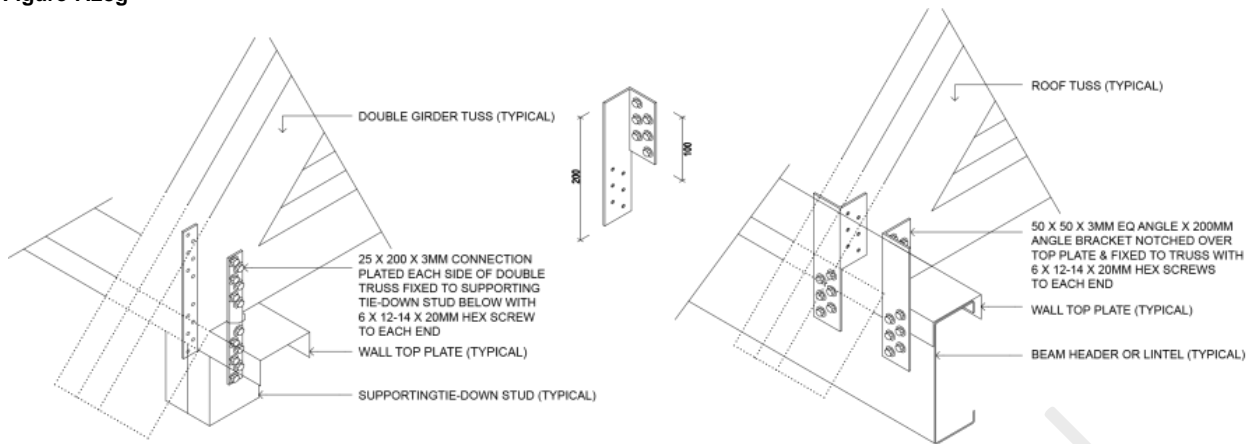
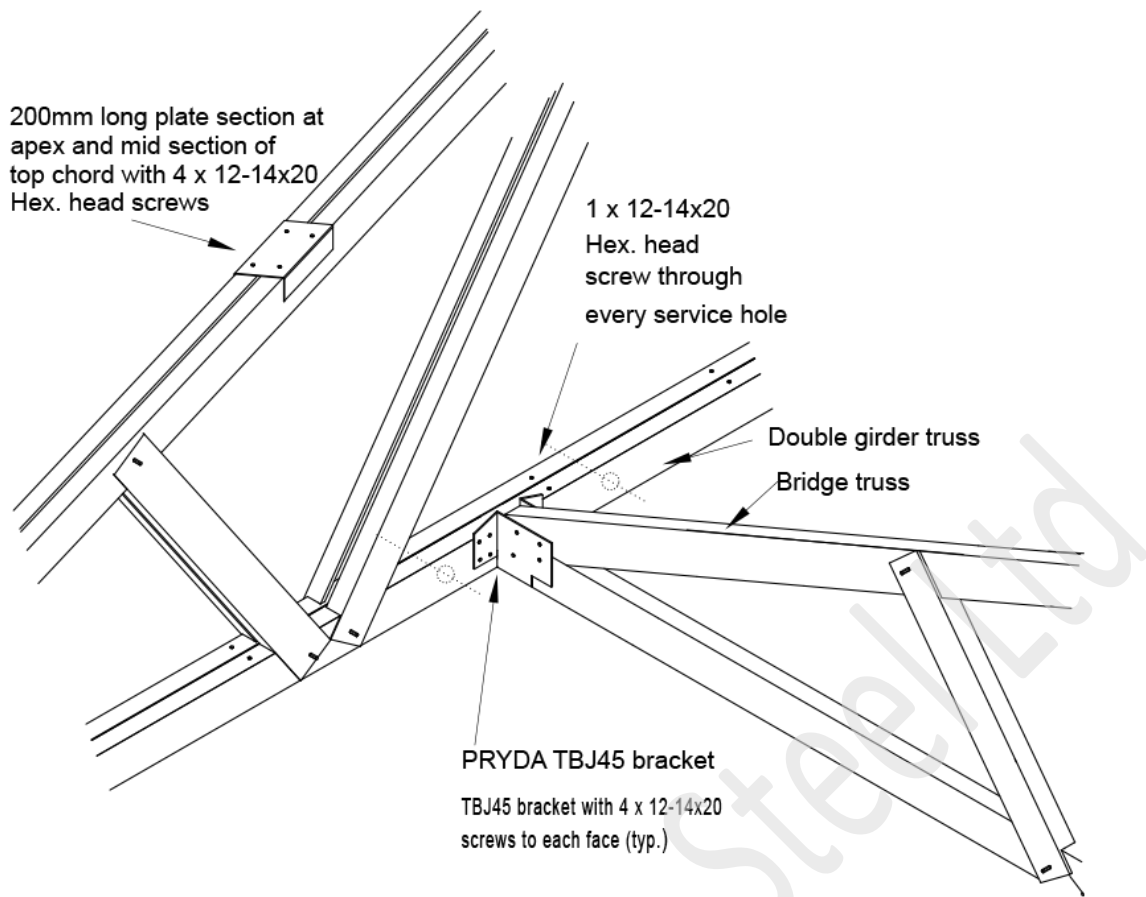

Figure 7.28d Double Girder Truss Hold down with angle and strap tie down option
Figure 7.28f Double Girder Truss Connection
STEP 6: Install the bridge trusses to the external wall and girder truss as shown in Fig. 7.28f.
STEP 7: Install the second ply girder truss (if applicable) with the toes of both trusses facing each other and fix it to the brackets as shown in Fig 7.28d. Install 1x12-14x20 Hex Head screws through EVERY service hole provided on the bottom chord to connect the two trusses together as shown in Fig. 7.28f Install 200 long plate sections with 4x12-14x20 hex- head screws to top chord near apex and midspan of top chord.